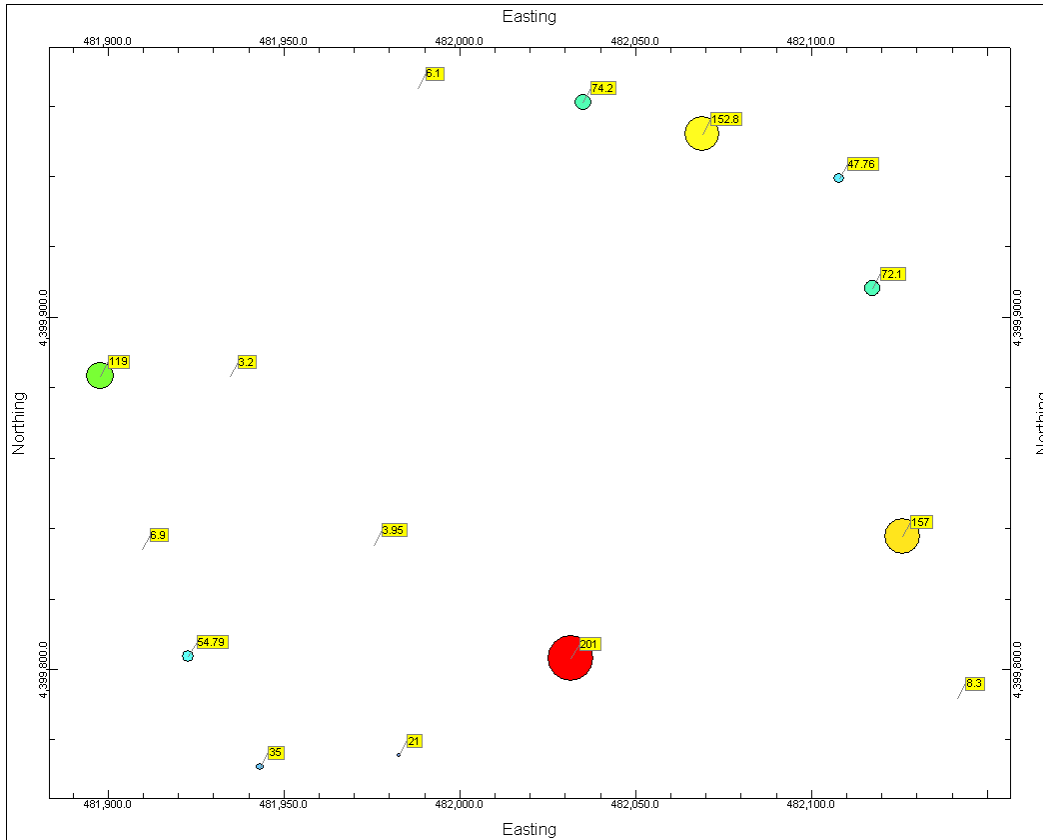

Figure 26
- Click on the *Continue* button to generate a labeled proportional symbol map depicting the magnitudes of the Dioxane samples (Figure 26).